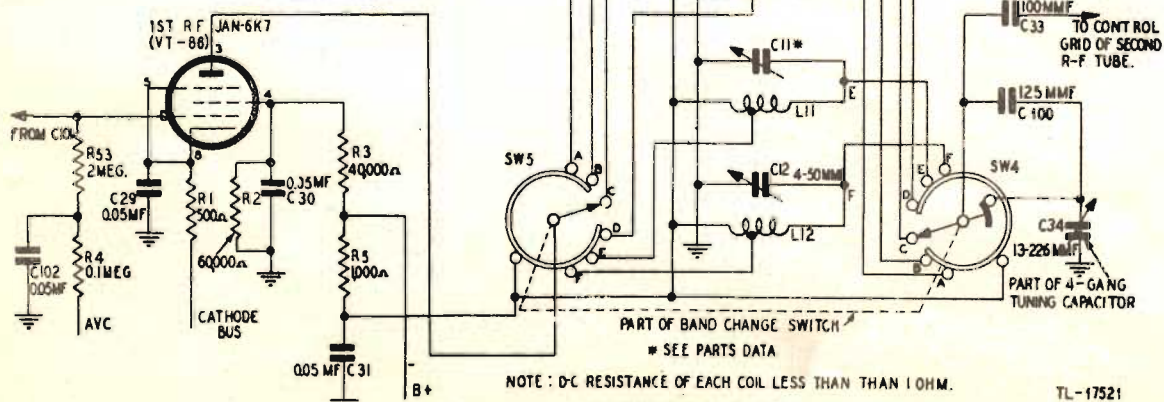

Figure 22. First r-f amplifier, schematic diagram.
b. VOLTAGE AND RESISTANCE MEASUREMENTS. The voltage and resistance measurements shown in figure 22 are made from the top of the tube socket with the tubes plugged into an adapter similar to that supplied with some models of Test Set I-56-(*). When no adapter is available, strip the ends of a short piece of insulated wire; wrap one end around the tube pin at which measurements are to be made. Plug the tube into its socket; connect the meter between the other end of the wire and the chassis to obtain these readings. Avoid grounding the wire to the chassis. Before making resistance measurements remove tubes from their sockets. Make the tests under the following conditions: